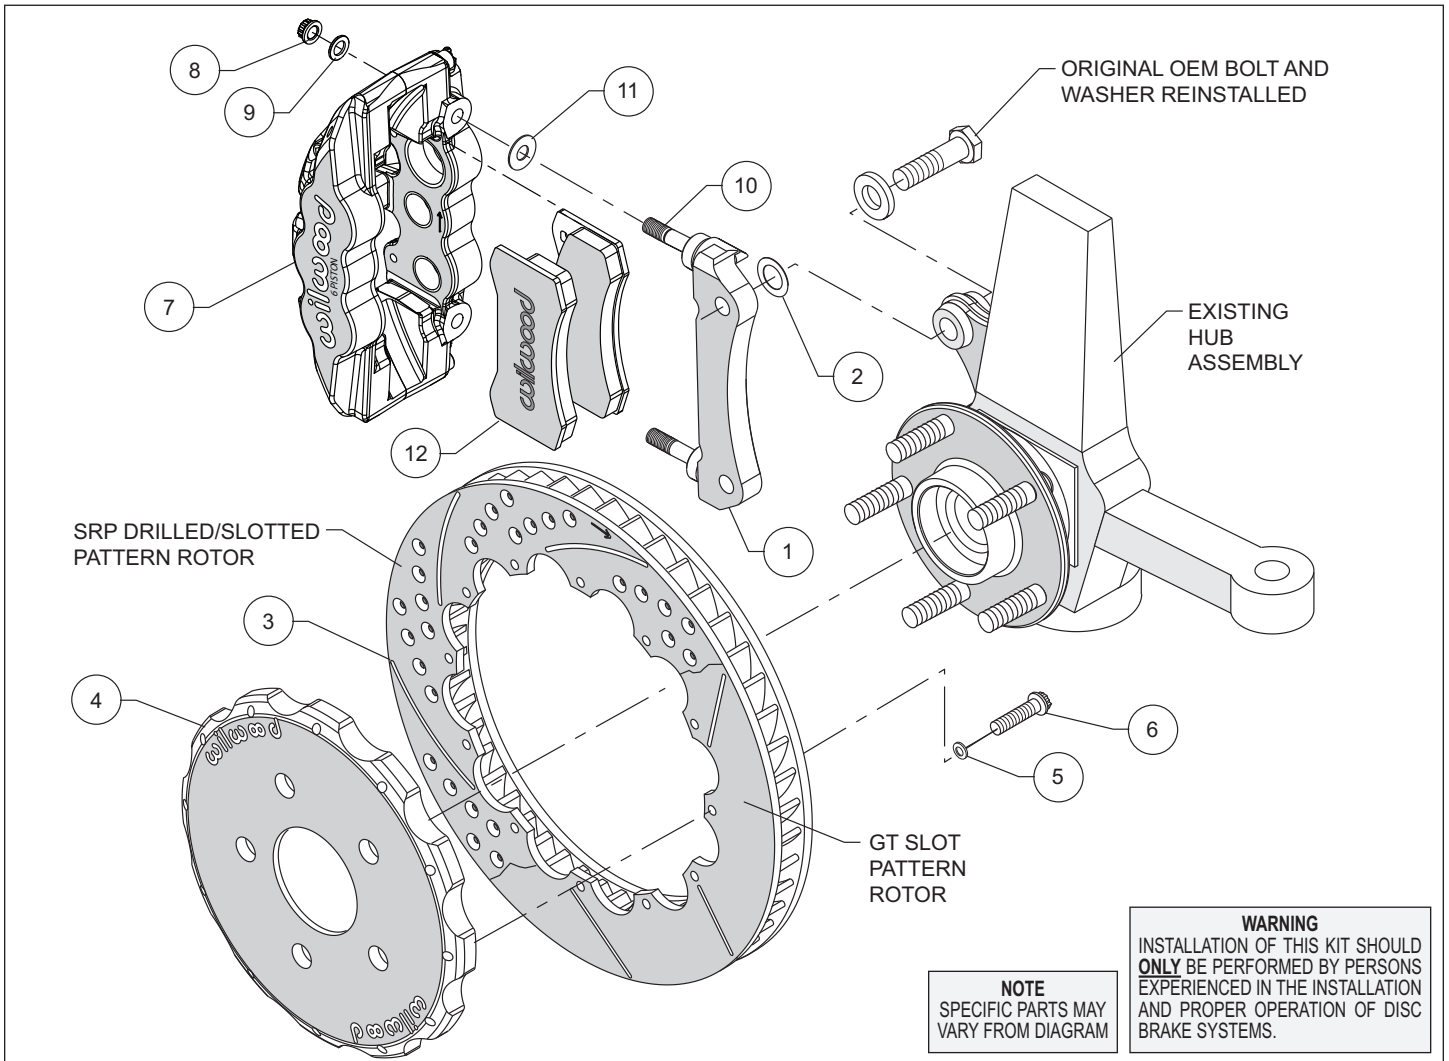
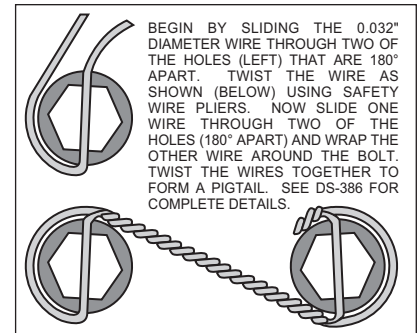

Figure 1. Typical Installation Configuration
Figure 3. Safety Wire Diagram
- The caliper mount bracket assembly (1) should be installed first with clean, dry threads on the mounting bolts. Install the bracket using the original caliper mount bolts. The bracket must tighten squarely against the outboard side of the caliper mount bosses on the spindle body. Inspect for interference from casting irregularities, machining ridges, burrs, etc. Use one thin shim (2) between the bracket and spindle during initial trial fitting. Later, after the caliper, pad, and rotor alignment has been checked, and any necessary shims have been put in place, the mount bolts should be coated with red *Loctite*® 271 and torqued to 65 ft-lbs.
- Assemble the rotor (3) to the hat (4) with the bolts (6) and washers (5) provided in the configuration pictured in Figure 1. Using an alternating sequence, apply red *Loctite*® 271 to the threads and torque bolts to 155 in-lb. For an added measure of security, the bolts may be safety wired using standard 0.032 inch diameter stainless steel safety wire as shown in Figure 3. Please refer to Wilwood's data sheet DS-386 for complete safety wire installation
- Install one shim (11) over each stud (10) on the radial mount bracket (1). Slide the caliper (7) in place over the studs and rotors and install the washer (9) and lock nut (8) to hold the caliper in place. The caliper bleed screws should be pointing up. Snug the lock nuts (8) and check that the rotor (3) is centered in the caliper (7). Add or subtract .029" shims (2) as necessary between the mount bracket and the spindle to center the caliper.
- Remove the two pad retaining pins from the caliper (1) by carefully popping out the pin retaining clips and sliding out the pins. Insert the brake pads (12) into the caliper from the bottom, Figure 1. With the friction material facing the rotor, secure the brake pads in place with the pad retaining pins and clips. Reinstall the caliper onto the caliper mounting bracket and temporarily tighten the lock nuts. Check that the top of the brake pad is flush with the outside diameter of the rotor. If not, adjust by adding or subtracting shims (11) between the caliper and the bracket.
- Once all clearances have been checked, remove the wheel, caliper, hat, and rotor from the spindle and hub. Secure the caliper mounting bracket (1) to the spindle using red *Loctite*® 271. Torque the bolts to 65 ft-lbs. Reinstall the hat and rotor assembly and again use several lug nuts to hold it in place. Lubricate caliper mounting studs and nuts with lightweight oil, reinstall the caliper, torque the caliper nuts (8) to 47 ft-lbs.